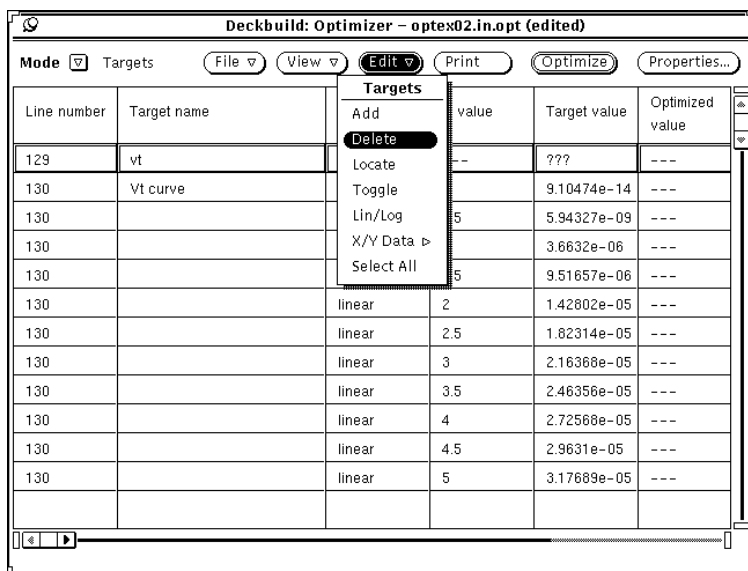

Figure 6-18: Deleting a Target
1. Position the pointer anywhere in the row to be deleted and double-click the **SELECT** mouse button to select that row. The row will then appear raised (Figure 6-18).